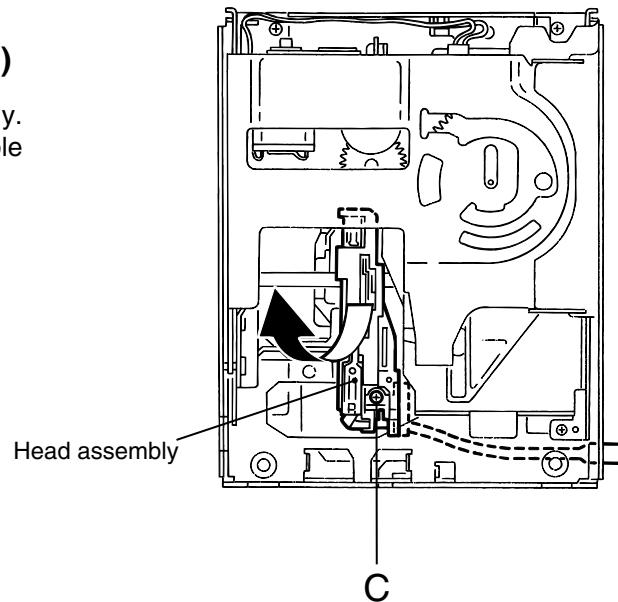

Fig.7
■Removing the head assembly (See Fig.7)